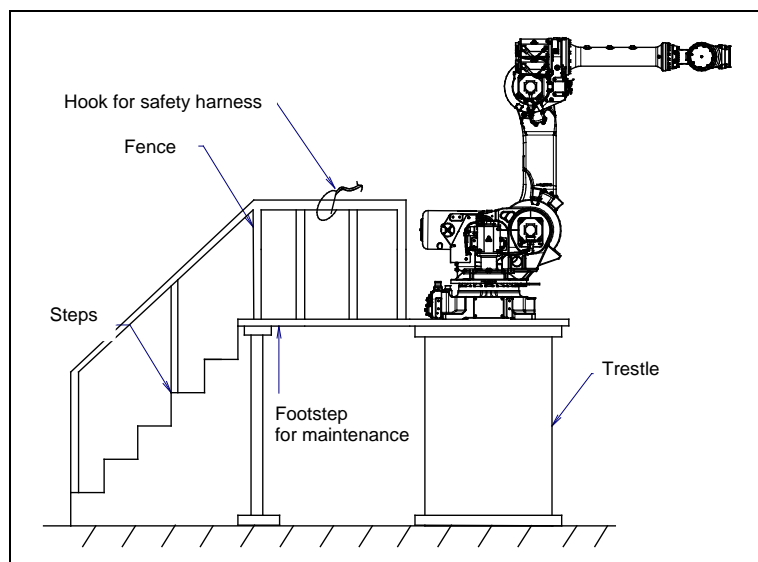

Fig. 3.2 (a) Pedestal for maintenance
- When preparing a footstep, please consider security for installation and maintenance work in high places according to Fig. 3.2 (a). Please consider an appropriate location for the footstep and safety harness mounting position.